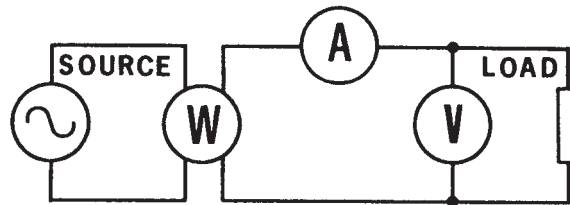
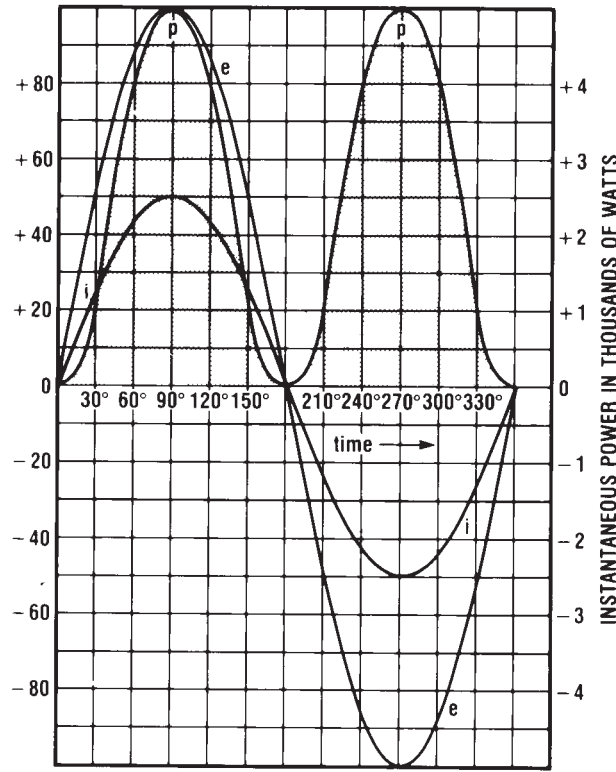

Figure 14-4.
Figure 14-5.
1. The load for the circuit shown in Figure 14-4, is resistive. The AC current meter indicates 35.3 A (rms) and the AC voltmeter indicates 70.7 V (rms).
2. The voltage and current waveforms, for the circuit of Figure 14-4, are shown on the graph of Figure 14-5.